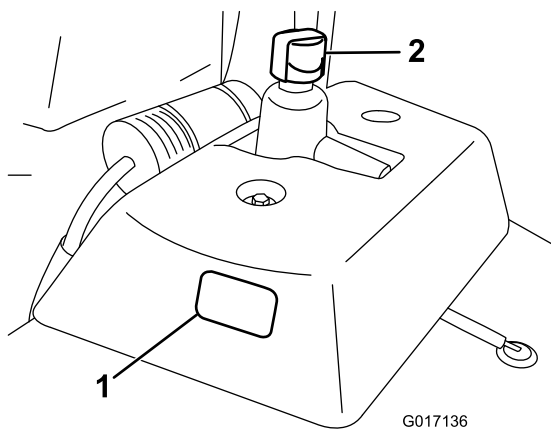

Figure 22
2. Check the oil level by viewing the sight window on the side of the auxiliary oil tank (Figure 22).